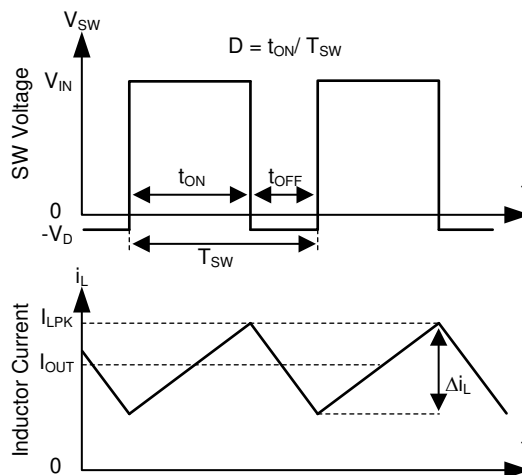

Figure 10-2. SW Node and Inductor Current Waveforms in Continuous Conduction Mode (CCM)
The TPS2586x-Q1 integrates a monolithic, synchronous, rectified, step-down, switch-mode converter with internal power MOSFETs and USB current-limit switches with charging ports auto-detection. The TPS2586x-Q1 offers a compact solution that achieves up to 5 A of continuous output current with excellent load and line regulation over a wide input supply range. The TPS2586x-Q1 supplies a regulated output voltage by turning on the high-side (HS) and low-side (LS) NMOS switches with controlled duty cycle. During high-side switch ON time, the SW pin voltage swings up to approximately V_{IN} . The inductor current, i_L , increases with linear slope $(V_{IN} - V_{OUT}) / L$. When the HS switch is turned off by the control logic, the LS switch is turned on after an anti-shoot-through dead time. Inductor current discharges through the LS switch with a slope of $-V_{OUT} / L$. The control parameter of a buck converter is defined as Duty Cycle $D = t_{ON} / T_{SW}$, where t_{ON} is the high-side switch ON time and T_{SW} is the switching period, shown in Figure 10-2. The regulator control loop maintains a constant output voltage by adjusting the duty cycle D . In an ideal buck converter, where losses are ignored, D is proportional to the output voltage and inversely proportional to the input voltage: $D = V_{OUT} / V_{IN}$.